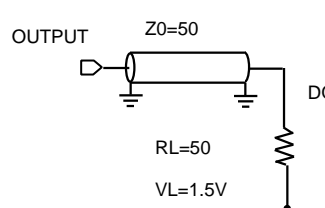
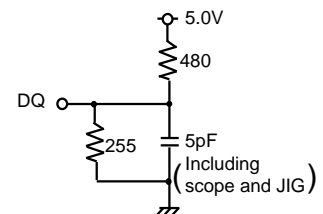

Fig.1 Output load
Fig.2 Output load for ten, tdis
Output loads ..... Fig1 ,Fig2
4. Transition is measured  $\pm 500\text{mV}$  from steady state voltage with specified loading in Figure 2.